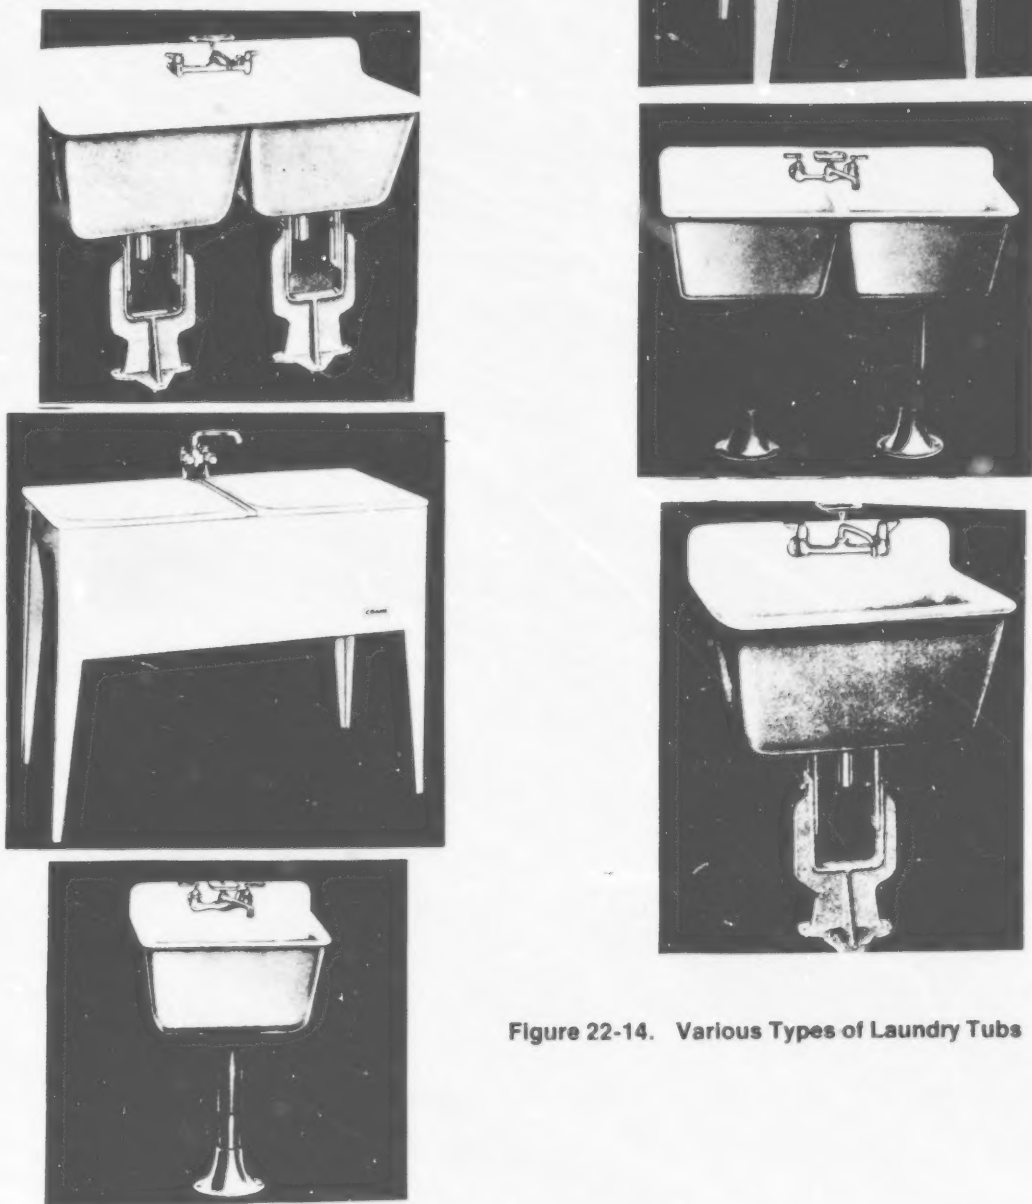

Figure 22-14. Various Types of Laundry Tubs
Laundry tubs are made of many different materials, including cast iron, steel, plastic, and concrete. Figure 22-14 shows some of the available types.
b) Various types of faucets are used on laundry tubs, a few of which are seen in the fixtures in Figure 22-14.